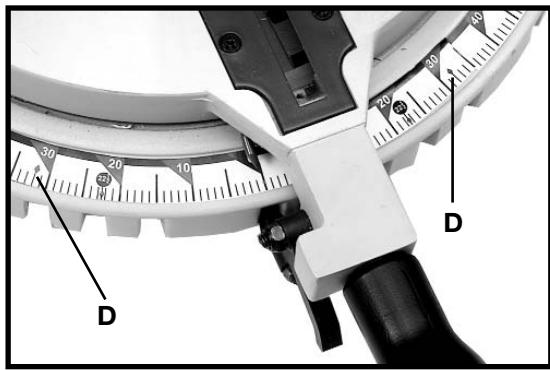

Fig. 13
In addition, a triangle indicator (D) Fig. 13 is provided on the miter scale at the 31.6 degrees right and left miter positions for cutting crown moulding. (Refer to the "**CUTTING CROWN MOULDING**" section of this manual).